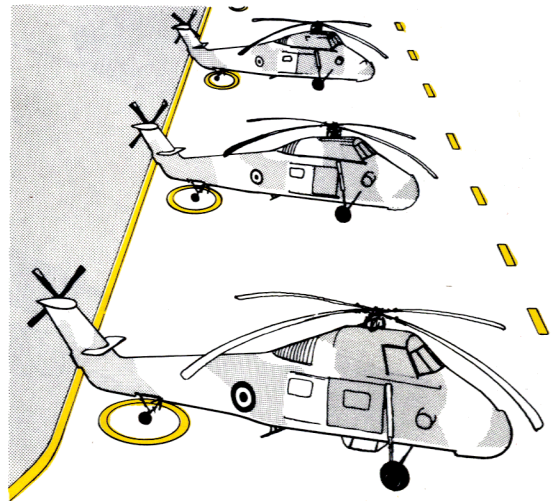

Fig. 10. Helicopter Parking Area
17. The unique approach and manoeuvrability of the helicopter presents a different marshalling situation for which a separate set of signals is required. As one would expect with an aircraft which can fly in any direction, hover, and virtually land on its parking spot, the whole parking procedure is very much shorter than that of its fixed-wing counterpart. With few, if any, taxiing problems to face, the handling party can concentrate on the major concern, that of ensuring that sufficient clearance exists for the whirling rotor blades. On helicopter parent stations the parking positions are marked on the surface of the parking area (Fig. 10). The interval between each mark ensures that there is ample clearance of the spread main rotor blades of each aircraft. When the aircraft is operating in forward areas, suitable landing sites allowing adequate clearance from obstructions would be cleared by the supporting groundcrew.